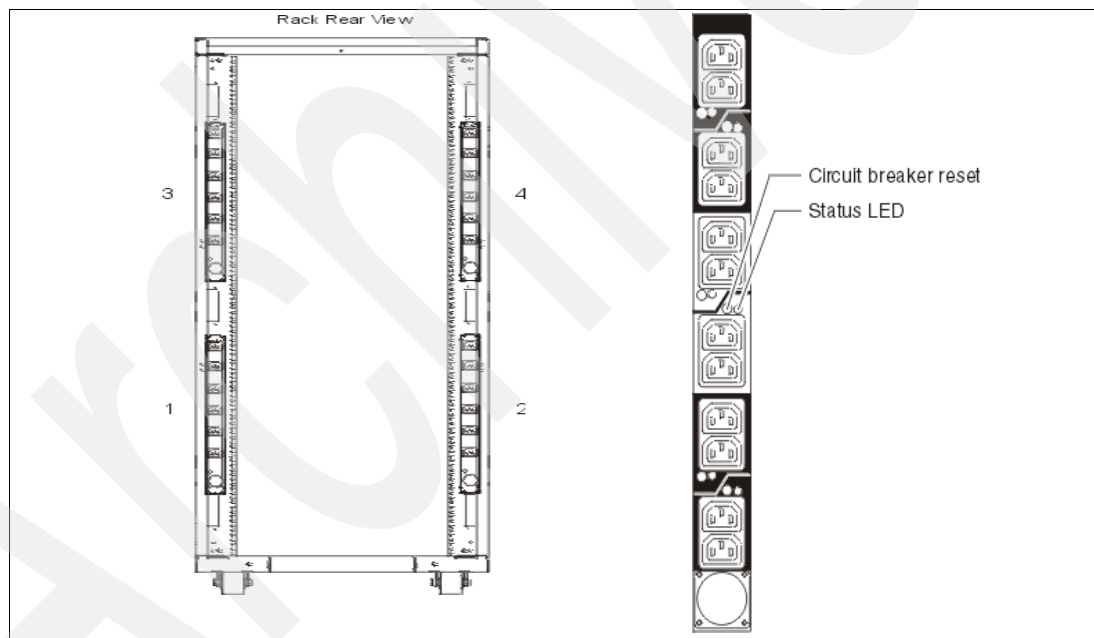

Figure 1-3 PDU placement and PDU view
- ▶ Up to four Power Distribution Units (PDUs) can be mounted in the PDU bays (see Figure 1-3 on page 9), but others can fit inside the rack. See 1.6.3, “AC Power Distribution Unit and rack content” on page 8.
Four PDUs can be mounted vertically in the 7014 racks. See Figure 1-3 for placement of the four vertically mounted PDUs. In the rear of the rack, two additional PDUs can be installed horizontally in the T00 and three in the T42 rack. The four vertical mounting locations will be filled first. Mounting PDUs horizontally consumes 1U per PDU and reduces the space available for other racked components. When mounting PDUs horizontally, it is recommended that fillers be used in the EIA units occupied by these PDUs to facilitate proper air-flow and ventilation in the rack.